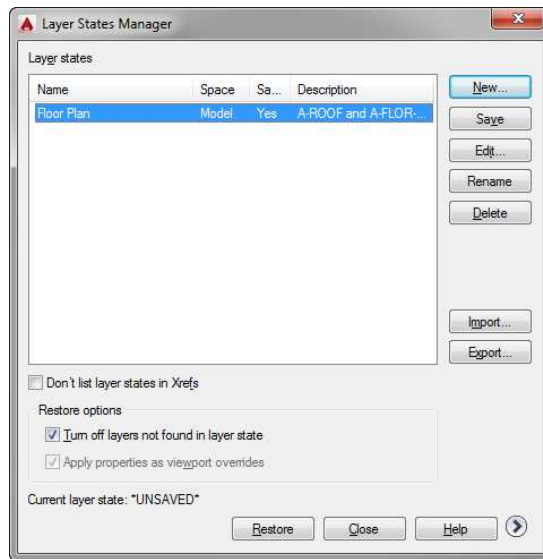

FIGURE 6.58: The Layer States Manager dialog box showing the new layer state
8. The new layer state appears in the Layer States Manager dialog box, as shown in Figure 6.58. Click the Close button to close the Layer States Manager dialog box.